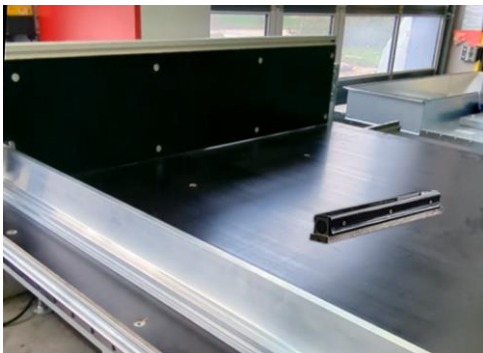

Figure 18: Level the sliding table
➔ If there are any deviations, you can correct them using the levelling feet (see also ⇒ Figure 18).
1. Place a spirit level on the tabletop once lengthwise and once crosswise (see examples in ⇒ Figure 18).